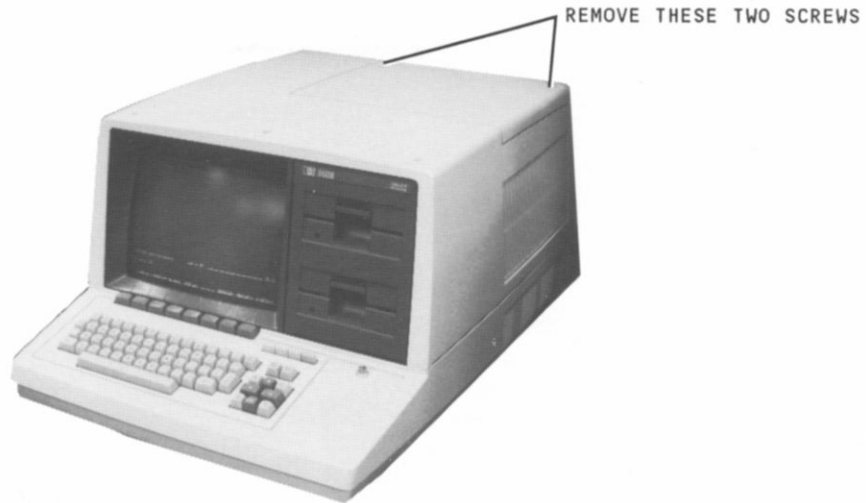

Figure 2-1. Cardcage Cover Removal
2. Remove the four screws securing the cardcage cover to the top of the 64100A station. See figure 2-1.